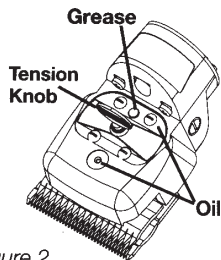

Figure 2
**BEFORE USE APPLY OIL IN THE OPENINGS SHOWN IN FIGURE 2 AND TO THE FRICTION POINTS OF THE BLADES. REPEAT OILING EVERY 10 MINUTES DURING USE.**